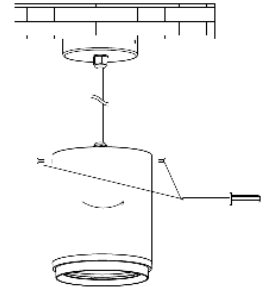

Fig. 13
8. Once the luminaire is wired, twist to lock the mounting plate and secure it with the screws. (Fig. 13)